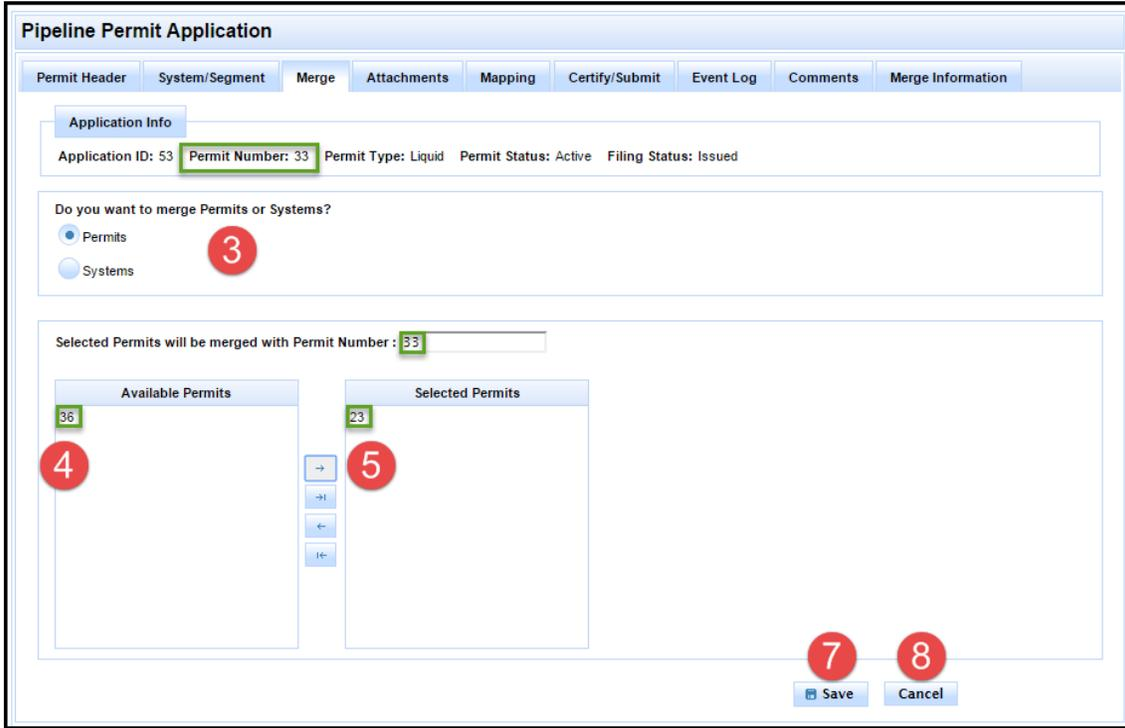

Figure 55: Merge One or More T-4 Permits, Steps 3 to 8
3. Select the **Permits** button in the “Do you want to merge Permits or Systems” section, as shown in Figure 55.